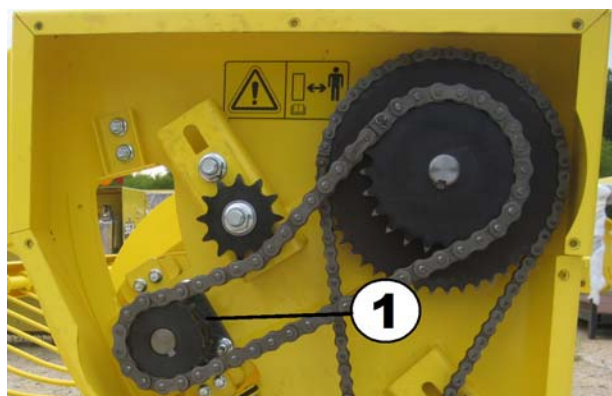

Figure 19. Main Auger Bearing
3. Main Auger Bearing at drive end. See Figure 19. Fitting is accessible through side panel access hole.